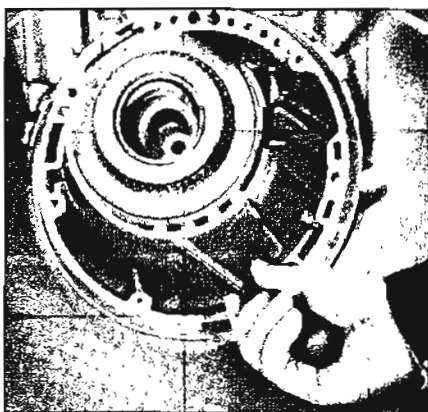

Figure 5-545
13. Remove the intermediate clutch backing plate to case snap ring. See Figure 5-545.